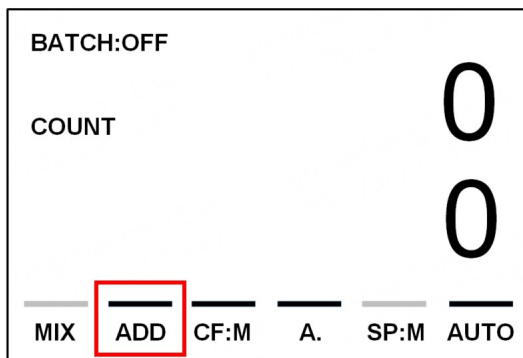

Figure 24
1) Press the "ADD" key to the left of the box below or touch the "ADD" character at the bottom of the display. The word "ADD: ON" appears on the display screen, and the horizontal line above the ADD character changes from gray to blue, indicating that the accumulation function of the machine is turned on at this time, as shown in Figure 24 below.